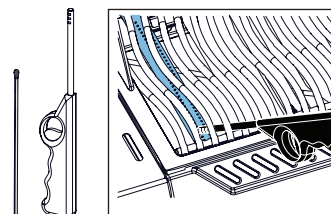

Fig. 2
4. If the pilot and burner will not light in 5 seconds – turn the control knob clockwise to the OFF position. Wait 5 minutes for gas to dissipate. Repeat steps 2 and 3, or light with a match (Fig. 1). Repeat steps 2 and 3, or see “Alternative Ignition Instructions” below (Fig.2).